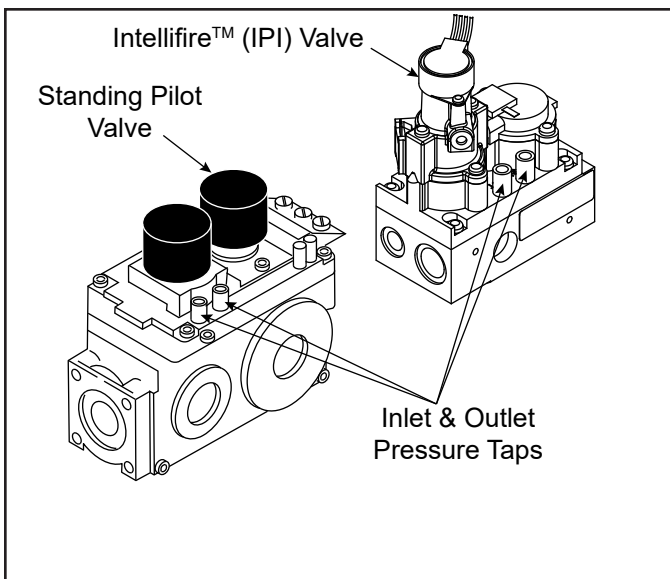

Figure 7.2 Pressure Taps
1. Turn captured screw counterclockwise two or three turns. See Figure 7.2.